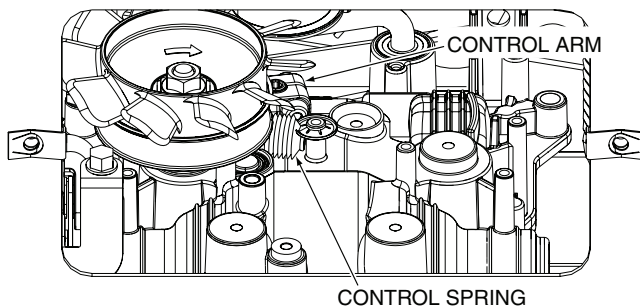

Figure 6-9. Transmission Control Arm and Spring
9. Adjust the cable until you see a slight movement in the control arm and spring on the transmission. See Figure 6-9.